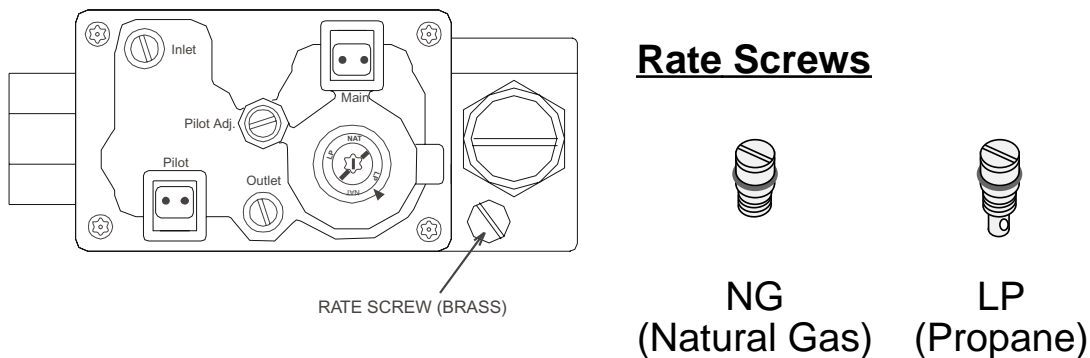

Figure 28
- 12 Remove the NG rate screw and replace it with the LP rate screw included in the owner's pack (see Figure 28). Take care to not damage the rubber o-ring on the rate screw when installing.